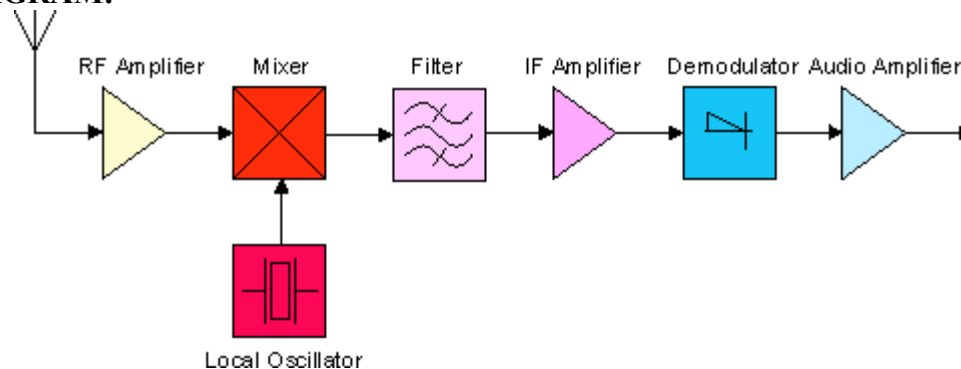

Figure 1: Superheterodyne Receiver
Figure 1. shows the minimum requirements for a single-conversion superheterodyne receiver design. The following essential elements are common to all superhet circuits: a receiving antenna, a tuned stage which may optionally contain amplification (RF amplifier), a variable frequency local oscillator, a frequency mixer, a band pass filter and intermediate frequency (IF) amplifier, and a demodulator plus additional circuitry to amplify or process the original audio signal (or other transmitted information). To receive a radio signal, a suitable antenna is required. This is often built into a receiver; especially in the case of AM broadcast band radios. The output of the antenna may be very small, often only a few microvolts. The signal from the antenna is tuned and may be amplified in a so-called radio frequency (RF) amplifier, although this stage is often omitted. One or more tuned circuits at this stage block frequencies which are far removed from the intended reception frequency. In order to tune the receiver to a particular station, the frequency of the local oscillator is controlled by the tuning knob (for instance). Tuning of the local oscillator and the RF stage may use a variable capacitor, or varicap diode. The tuning of one (or more) tuned circuits in the RF stage must track the tuning of the local oscillator.